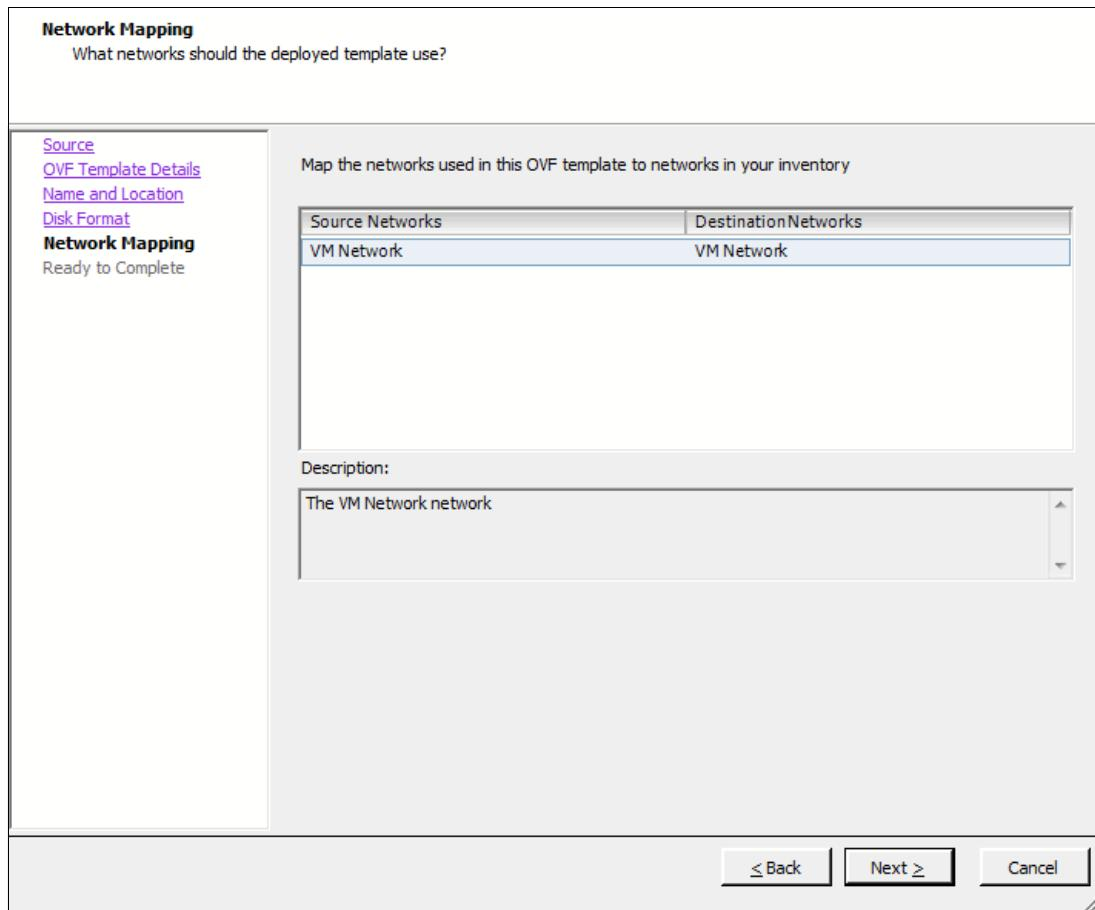

Figure 3-37 Network Mapping panel
7. In the Network Mapping panel (Figure 3-37), click **Next**.